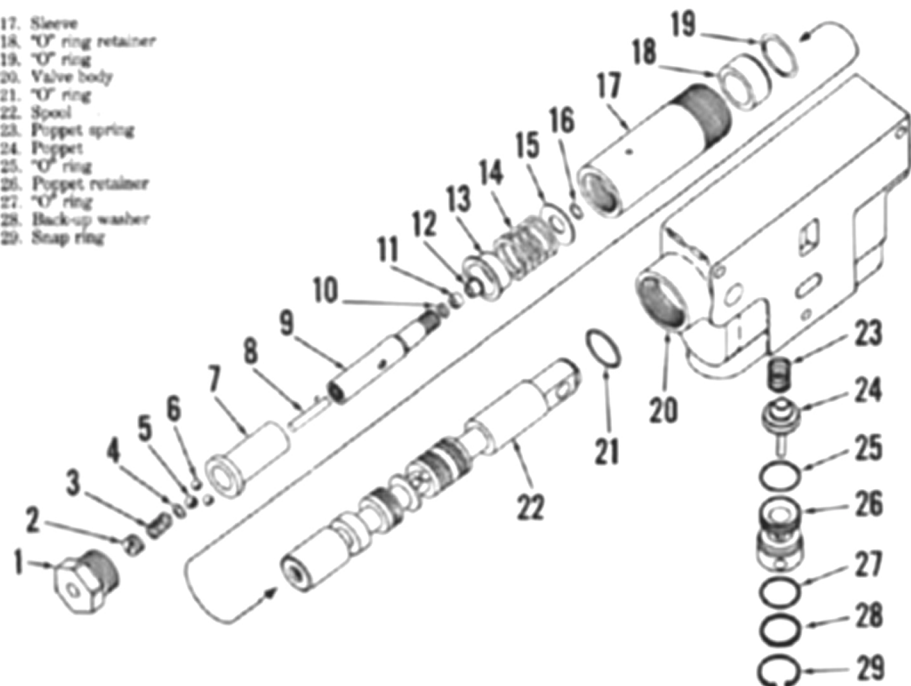
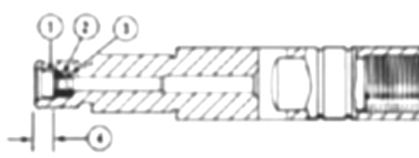

Fig. 182 - Exploded view of auxiliary control valve.
Fig. 183 - Sectional view of actuator in the auxiliary valve. Refer to text.
To disassemble, refer to Fig. 182 and proceed as follows: Remove end cap (1), then unscrew actuator (9) and remove actuator and detent assembly. Remove sleeve (17) and pull balance of parts from body. Check valve assembly can be removed at any time after removing snap ring (29). Detent (3, 4, 5 and 6) can be disassembled after removing plug (2). Push unlatching piston (8) out of actuator (9) with a long thin punch. Using a carburetor jet tool, remove actuator valve plug (12), "O" ring (11) and back-up washer (10).
Use all new "O" rings and reassemble by reversing the disassembly procedure. Be sure the bolt holes in the retainer (26) are lined up with bolt holes in body. When installing actuator plug (1 - Fig. 183), "O" ring (2) and back-up washer (3) should be installed to distance of 0.171-0.181 inch at (4). IH tool for installing the plug is part number FES 143-7. Detent unlatching pressure is adjusted by plug (2 - Fig. 182). Unlatching pressure is 2000-2500 psi. Be sure filter in end cap (1) is clean (no paint) and in satisfactory condition.